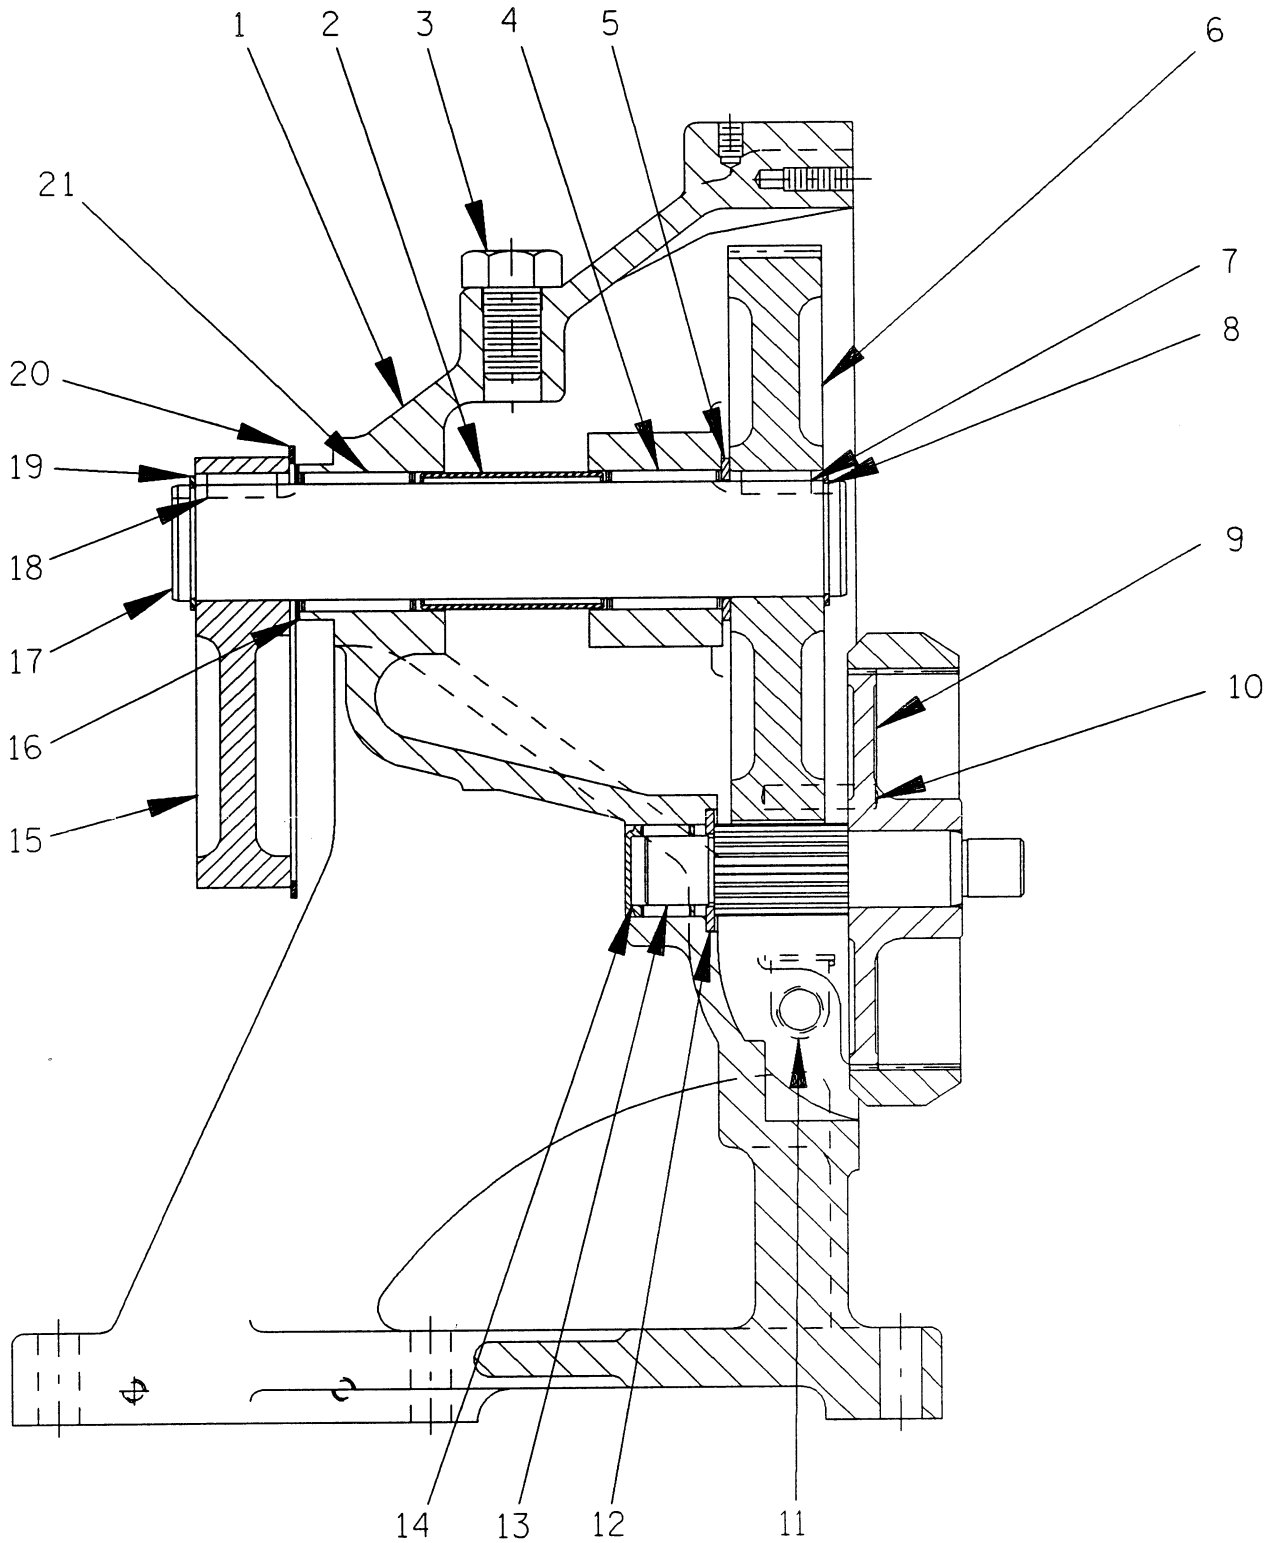

Figure 4. 44161-007 Gearbox Assembly
Removing the snap ring (6) and slide the plunger rod assembly (22) off the eccentric cam drive shaft (17, Figure 4).
#### (Figure 4)